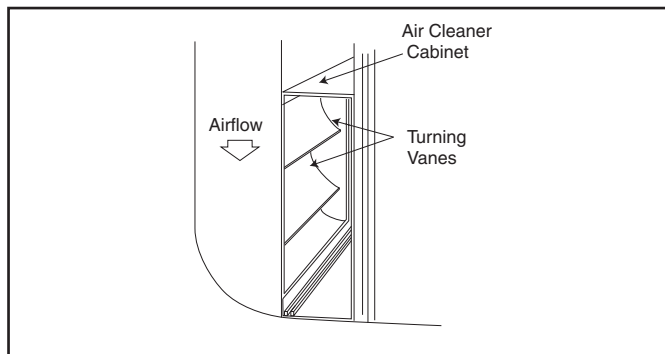

Figure 9 Turning Vanes
7. It is recommended that sheet metal turning vanes be installed inside an elbow on ductwork attached to the entering airstream side of the air cleaner. This improves the air distribution over the COLLECTION CELLS. See Figure 9.
NOTE: It is recommended that sheet metal turning vanes be installed inside an elbow on ductwork attached to the entering airstream side of the air cleaner. See Figure 9 on Page 4.